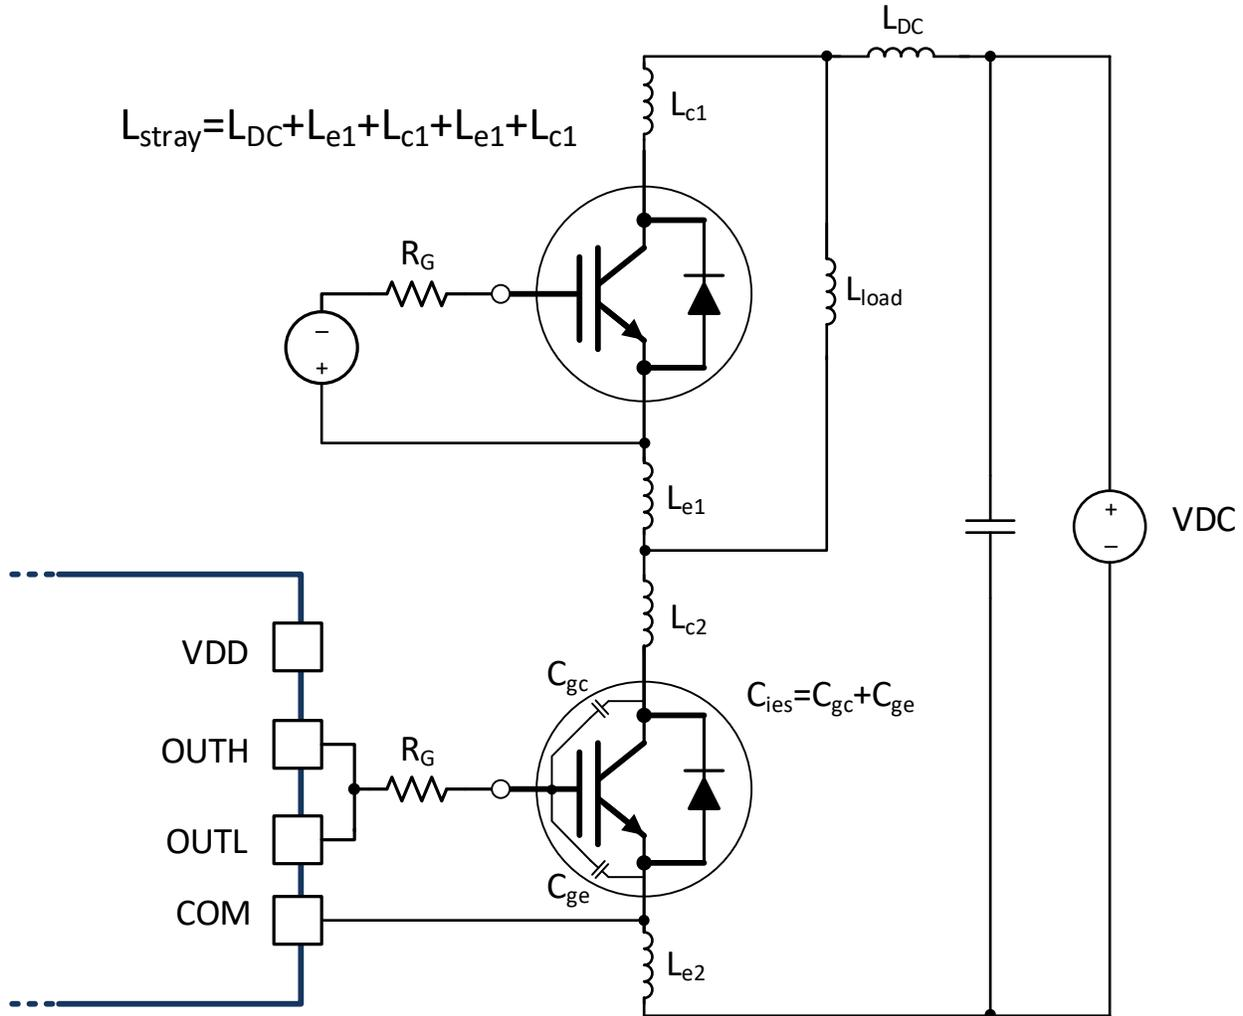

図 8-6. Stray Parasitic Inductance of IGBTs in a Half-Bridge Configuration
- L_{stray} is the stray inductance in the power switching loop, as shown in 图 8-6.